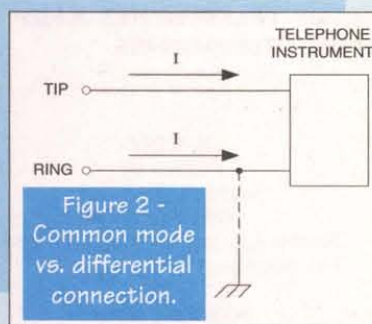

Figure 2 - Common mode vs. differential connection.
The telephone system is normally common mode, which is to say that it is balanced with respect to ground. Figure 2 shows this condition. When common mode integrity is maintained, the currents (I) flowing due to RF will be equal, nulling out at the instrument. It is not guaranteed that common mode lines will be EMI-
Occasionally, a differential mode condition exists. This is an unbalanced condition. This is illustrated by the grounded condition in Figure 2. This mode can exist because of staples used to mount the wire breaking one insulator but not the other, by insulation breaking down, and by wiring errors. When the differential mode exists, the telephone will still operate as before, but the susceptibility to EMI will be tremendously increased.